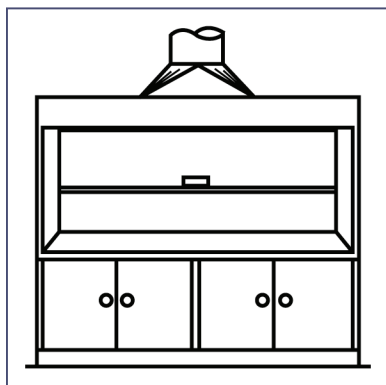

Figure 1. Vertical sliding sash
- For hoods equipped with vertical sashes, lift sashes only as far as you need to do your work comfortably, no higher than 18 inches. Sash heights higher than necessary reduce protective shielding and ventilation. (Figure 1)*